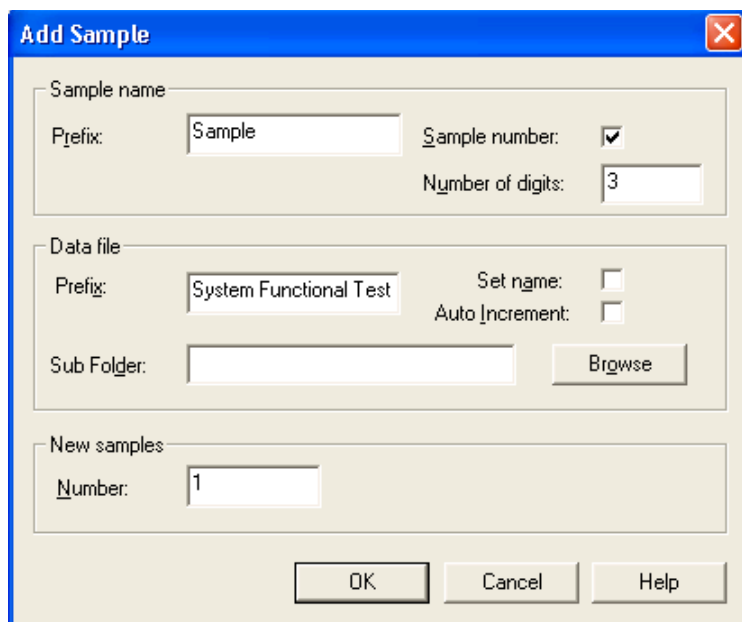

Figure 2-25 Add Samples dialog—System Functional Test
2. Build the acquisition batch, as shown in Figure 2-25.